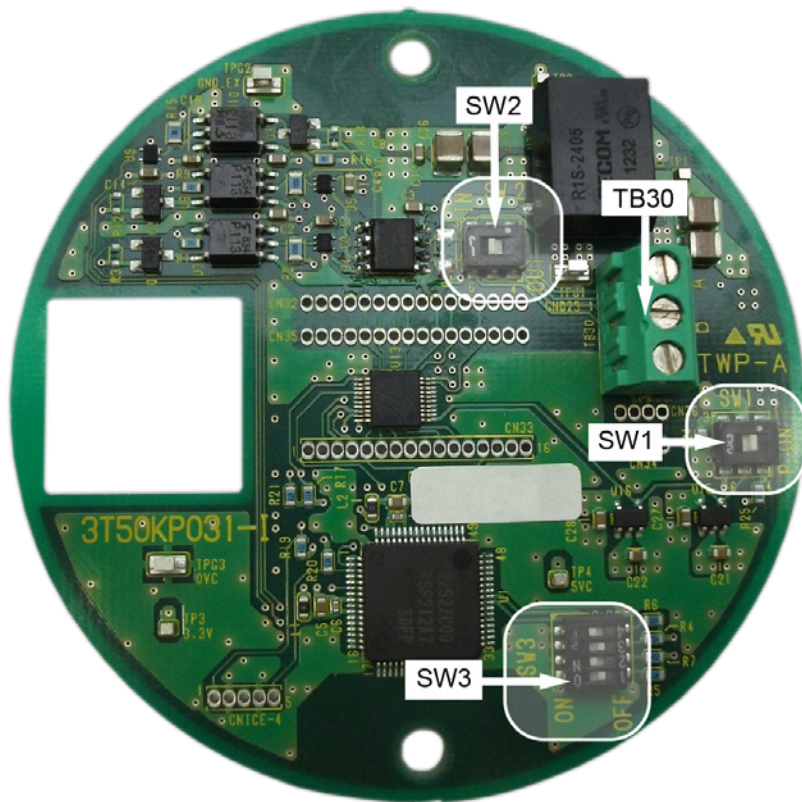
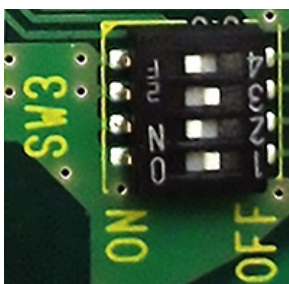

Figure 2.6—Maintenance board, showing switch and terminal block positions
Figure 2.7—Closeup of SW3, showing the baud rate set to 38400
5. Verify that SW1 (Figure 2.6), which provides power to the maintenance board, is in the “P_ON” position.
6. Check the position of SW2 (Figure 2.6, page 11) and wire the cable as described below:
2. Locate SW3 on the Maintenance board (Figure 2.6, page 11) and change the SW3-1 and SW3-2 positions (Figure 2.7) to set the desired baud rate. See the Baud Rate Switch Settings table below for switch positions.